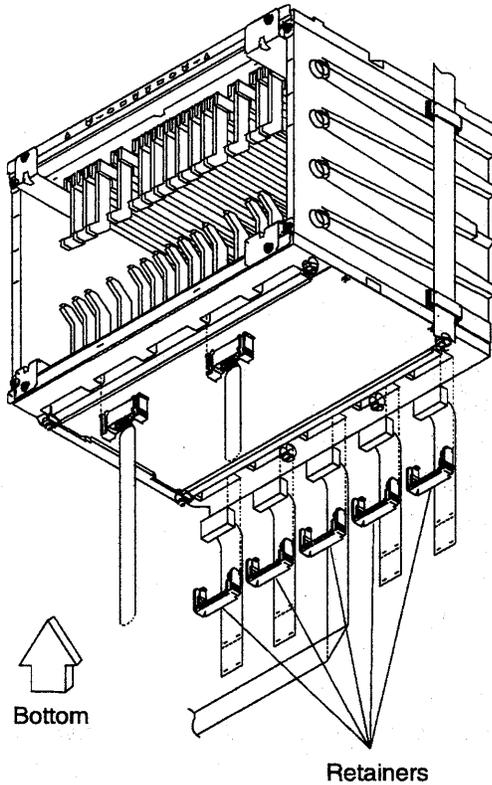

Figure 4-159. Lower View of the SAC Gate Assembly
d. Refer to Figure 4-159. Check if the cables are labelled according to their positions. If they are not, label them. Remove the retainers and the cables from the Y and Z rows.
4. Refer to Figure 4-159 on page 4-171. At the rear side, do the following: